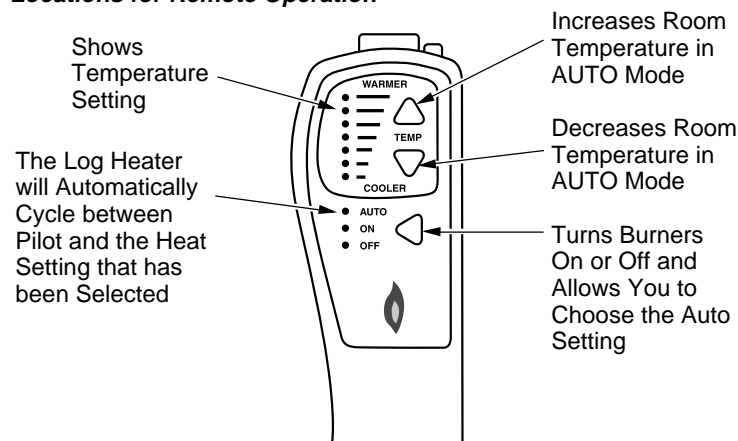

Figure 36 - Thermostat Hand-Held Remote Control Unit Selections (GHRCTA Only)
- 2b. Press the AUTO/ON/OFF button on the hand-held remote control (see Figure 36). The lights to the left of the button will show AUTO, ON, or OFF.